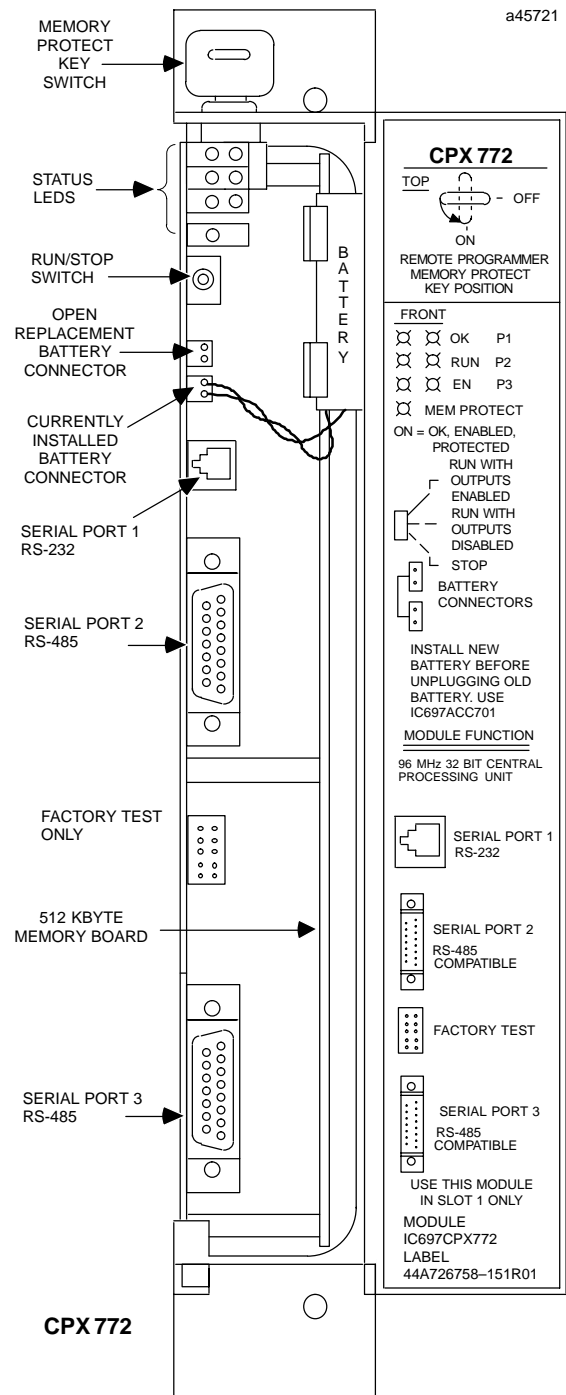

Figure 2. CPX 772 - Location of Major Features
- Connect the battery to either of the battery connectors on the module (see Figure 2).